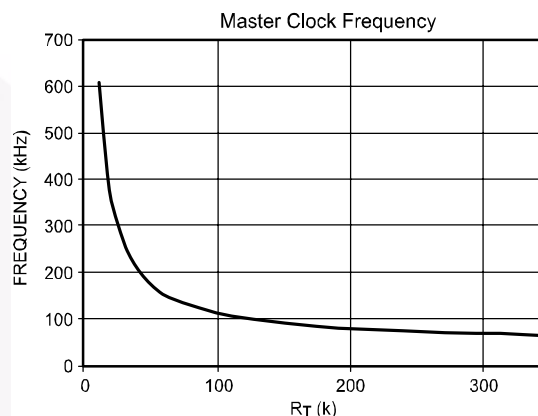

Figure 18.  $R_T$  vs. Frequency
The clock frequency on the oscillator is set using an external resistor, connected between R(T) pin and ground. The frequency follows the graph, as shown in Figure 18. The minimum clock frequency is 50kHz, which is when R(T) pin is left open. Select the value of R(T) as shown in the equation below. This equation is valid for all  $f_{OSC} > 50\text{kHz}$ :